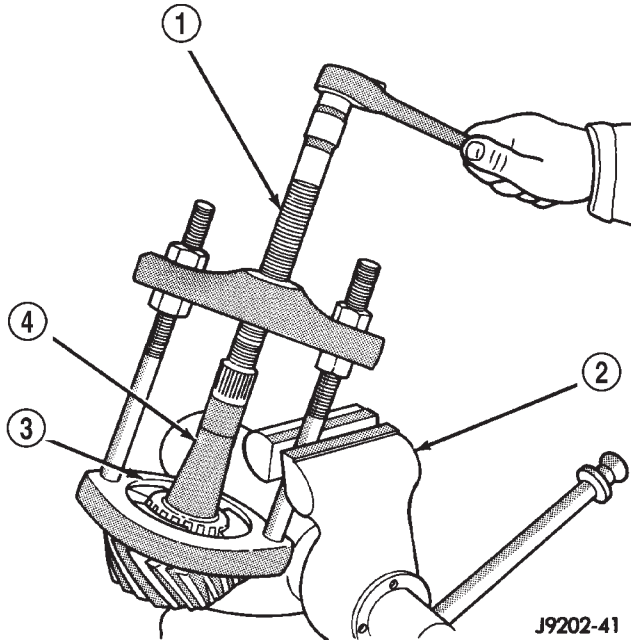

Fig. 56 Inner Bearing Removal
(10) Remove the rear pinion bearing from the pinion with Puller/Press C-293-PA and Adapters C-293-39 (Fig. 56).